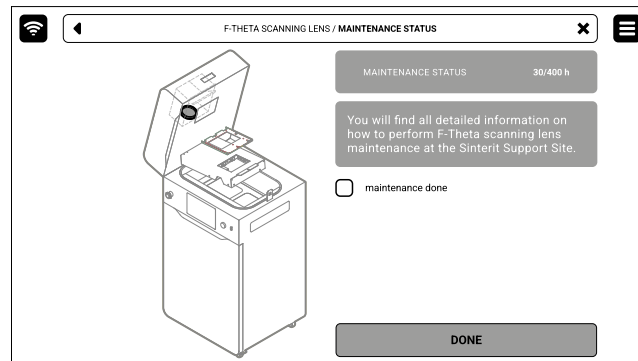

Fig. 13.50 The screen of the maintenance of the F-Theta scanning lens.
2. Mark **MAINTENANCE DONE** to complete the cleaning procedure, and then the **DONE** button. The timer will reset to zero (fig. 13.50).